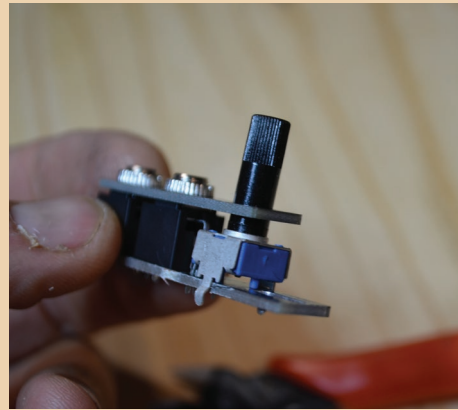
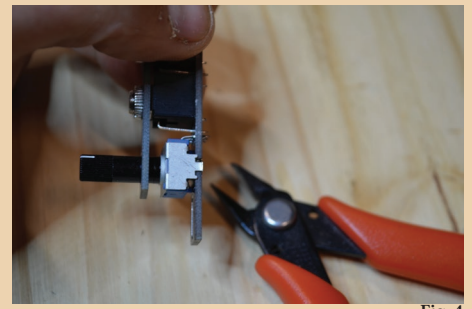

Fig. 3
Fig. 4
4. Make sure the potentiometer is flat against the bottom PCB [Fig. 3] and centered in the hole of the top faceplate, then solder in place. The two larger side legs can be soldered as well and the excess metal of the legs can be clipped off if desired with some snips. [Fig. 4]